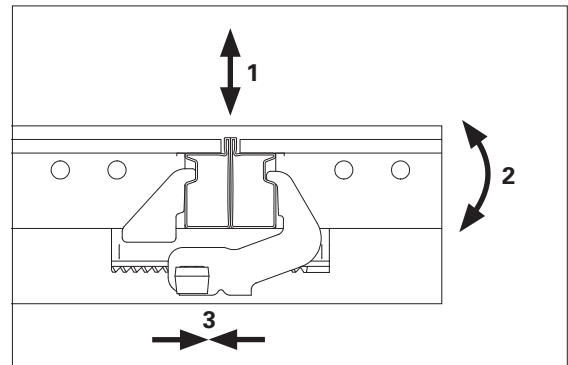

Fig. A4.03
- 3 Panels are tightly connected. (Fig. A4.03)